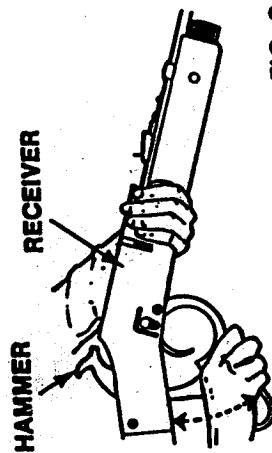

FIG. 8
3. When shooting BBs, hold the gun by the Forearm with one hand with barrel pointing slightly down. With your other hand, push down the Cocking Lever easily till it stops. Pull it back easily (FIG. 8).